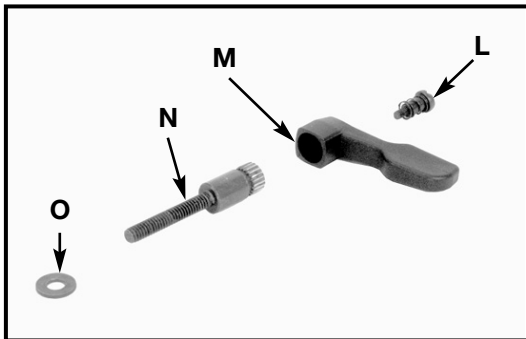
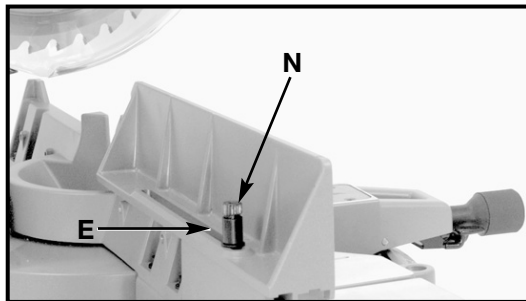

Fig. 7G
Fig. 7H
- Remove screw and spring (L) Fig. 7G, and lock handle (M) from locking stud (N).
- Place 1/4" flat washer (O) Fig. 7G, onto locking stud (N) and insert locking stud (N) Fig. 7H, through slot in fence slide.